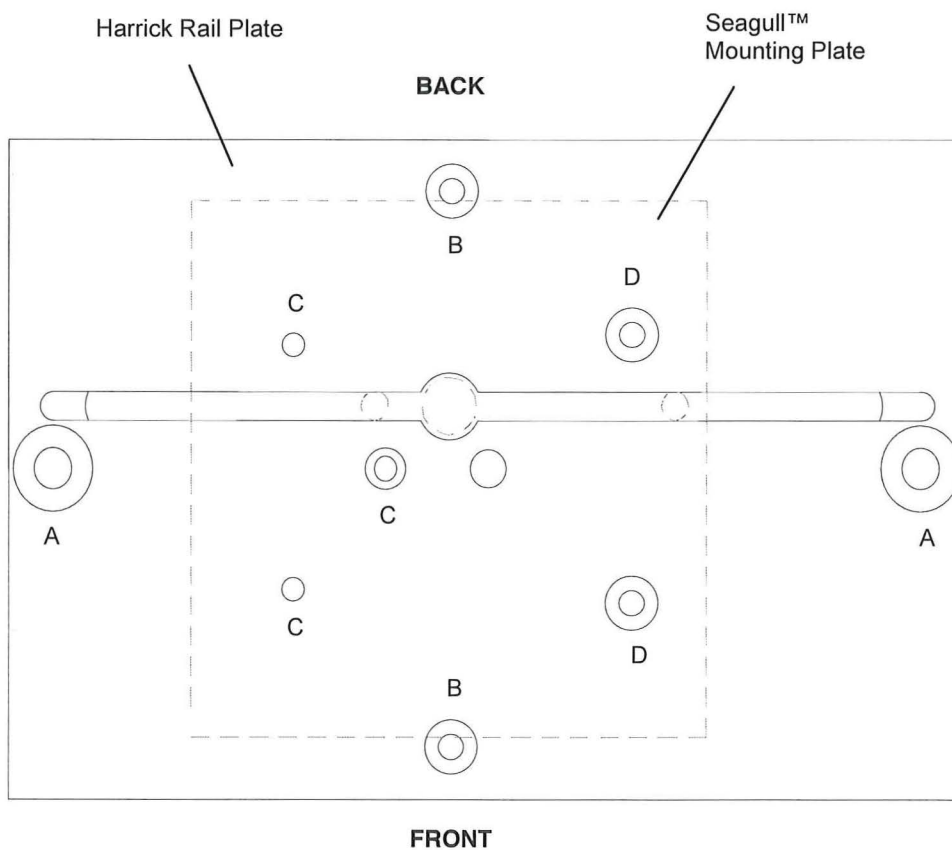

Figure 15 • Screw and Pin Positions for Rail Plate
- Install the rail plate in the orientation indicated in Figure 15. See Table 1 on the next page for the appropriate screws/holes for your spectrometer.